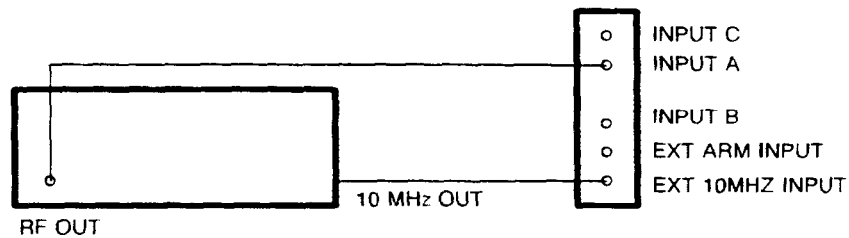

Figure 5-16. Input A Amplifier Setup Configuration
3. Connect the counter to the signal generator as shown in Figure 5-16.